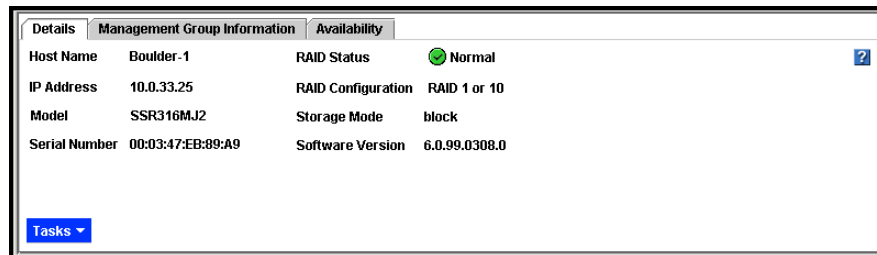

Figure 17. Icon Showing RAID is Normal
- If RAID is **normal**, a green circle displays in the SSM configuration details tab when the SSM is selected in the Network View, as shown in Figure 17.